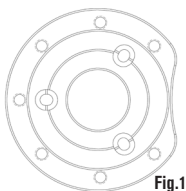

Fig.1
2. Cover Plate, 6" through 9.25" Fig.1